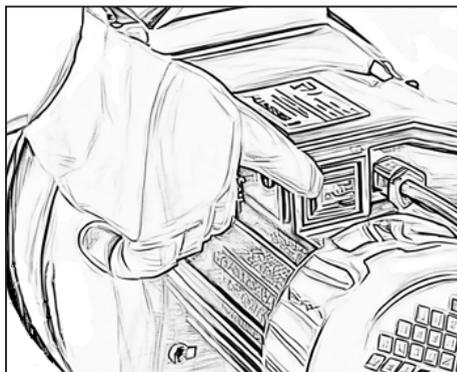

Fig. 6
- Set the on/off switch to "ON". (Fig. 6)